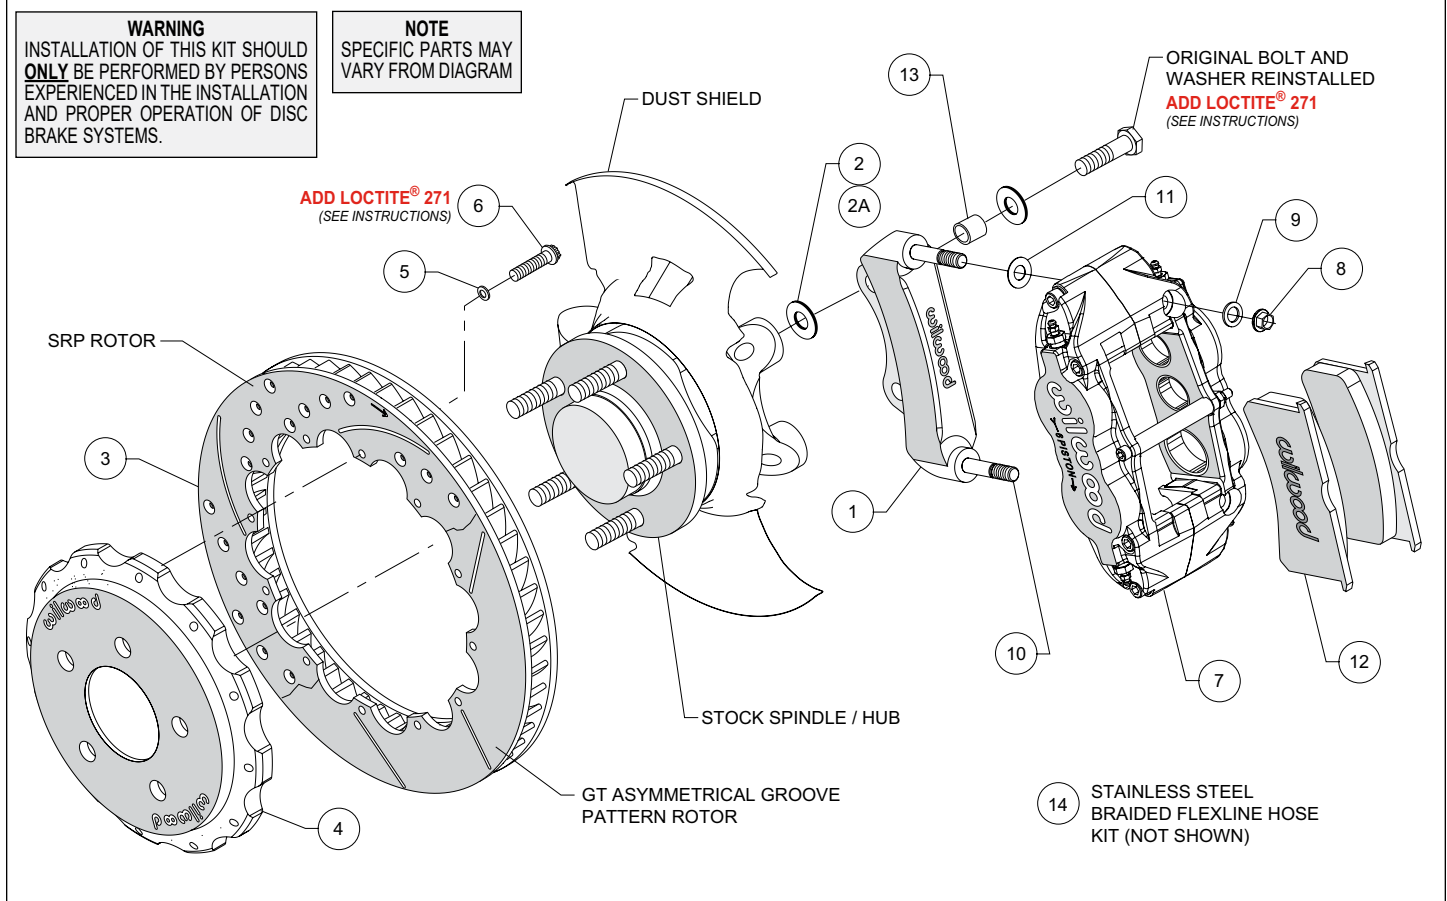

Figure 1. Typical Installation Configuration
- The caliper mounting bracket assembly (1) should be installed first with clean, dry threads on the mounting bolts. Install the bracket from the rear side of the spindle by sliding the original stock bolts through washer, sleeve (13) (sleeve only utilized on 2004 model year), and bracket (1). Place shim washer (2 or 2A for 2004 model year) between the bracket (1) and the spindle (see Figure 1). The bracket must tighten squarely against the side of the spindle body. Inspect for interference from casting irregularities, machining ridges, burrs, etc. Use one thin shim (2 or 2A) between the bracket (1) and spindle during initial trial fitting.
- NOTE:** This kit contains distinct right and left hand calipers that must be mounted in a specific direction, as described below. Initially place one .035" thick shim (11) on each stud (10) as shown in Figure 1. Mount the caliper (7) onto the bracket (1) using lock nuts (8) and washers (9), Figure 1. Ensure that the caliper is mounted so that the largest pistons are at the rotor exit end of the caliper, in relation to the direction of rotor rotation. Temporarily tighten the lock nuts and view the rotor through the top opening of the caliper. The rotor should be centered in the caliper. If not, adjust by adding or subtracting shims (2 and/or 2A) between the bracket and the upright. Always use the same amount of shims on each of the two mounting bolts. Once the caliper alignment is correct, remove the bracket mounting bolts one at a time, apply red *Loctite*® 271 to the threads, and torque to manufacturer's specifications.
- Remove the caliper center bridge pad retainer bolt, nut, and tube from the caliper. Slide the brake pads (12) into place. They should install easily without interference. Check that the outside radius of the brake pad is aligned with the outside diameter radius of the rotor face. Add or subtract shims (11) between the caliper and mount bracket to gain the proper alignment. Reinstall the center bridge pad retainer tube, bolt, and locknut. The locknut should be snug without play in the bolt or tube. Be cautious not to over tighten.
- Once all clearances have been checked, remove the wheel, caliper, hat, and rotor from the spindle and hub. Secure the caliper mounting bracket (1) to the spindle with original stock bolt using red *Loctite*® 271. Torque the bolts to manufacturers specifications. Reinstall the hat and rotor assembly and again use lug nuts to hold it in place. Reinstall the caliper and torque the caliper nuts (12) to 30 ft-lb.
- NOTE:** OEM rubber brake hoses generally cannot be adapted to Wilwood calipers. The caliper inlet fitting is a 1/8-27 NPT (use PTFE tape on pipe threads of adapter fitting for proper sealing to caliper). Install Wilwood hose kit included in this kit (14), P/N 220-14177, which includes hoses, fittings, etc., all in one package for this application, Photo 1. Minor repositioning of the hard line is required to align it with the new fitting location. **Carefully route lines to prevent contact with moving suspension, brake or wheel components.** Wilwood hose kits are designed for use in many different vehicle applications and it is the installer's responsibility to properly route and ensure adequate clearance and retention for brake hose components.